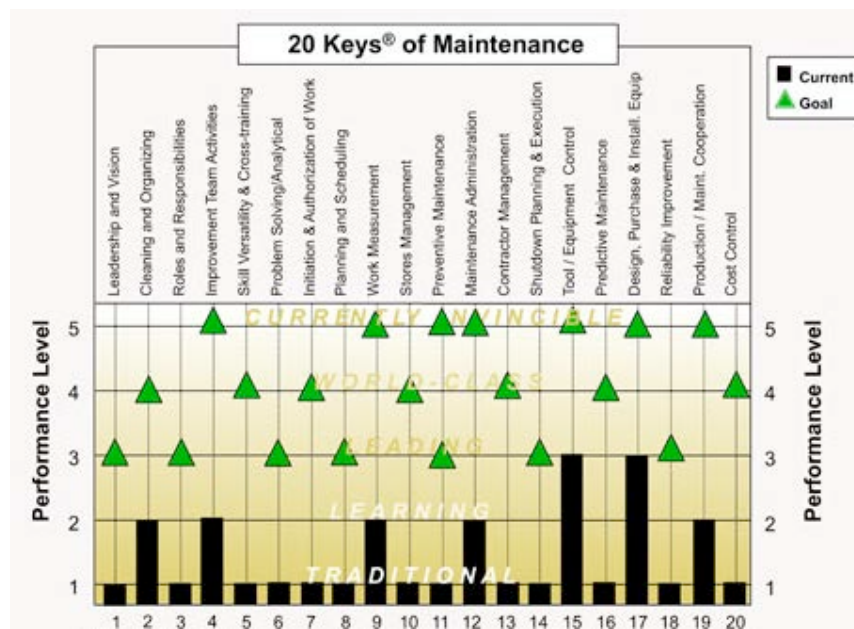

Figure 3 – A Sample 20 Keys® of Maintenance Chart with Current State and Goal Objectives
3. 20 Keys® Action Plan – The Kaufman Global 20 Keys approach focuses each work group on a long-term improvement plan. Every set of 20 Keys (customized for different functional areas or processes) consists of a chart for mapping goal attainment and a corresponding set of point or level descriptors for individual keys. Each work group assesses itself and develops its own 20 Keys Action Plan for improvement. Figure 3 displays a sample 20 Keys chart. The improvement plan lists the specific actions required by the group’s members to attain the point goals. The chart and the accompanying improvement plan are posted on the group’s PVD.